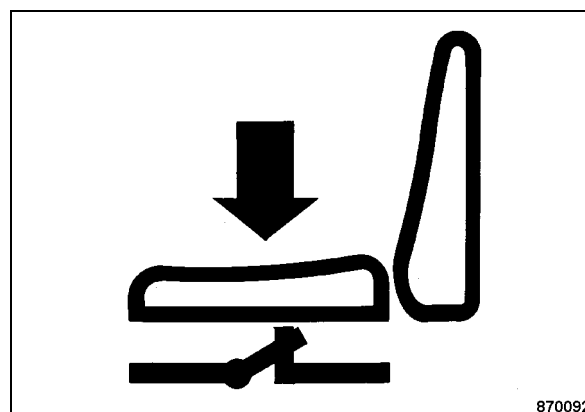

Fig. 35
- Always start the engine from the driver's seat with seat contact switch (Fig. 35).